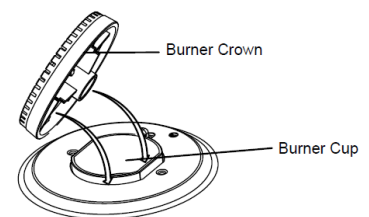

Figure 2
Removing The Burners (Refer Figure 2)
- To do this, ensure that the 2 ribs on either side of the spark plug hole are positioned into the 2 slots on the burner cup. (See figure 2).
- Open the lever A completely on the left and right hinges (fig. 2)
- Gently close the door (fig. 3) until left and right hinge levers A (fig. 2) are hooked to part B (fig. 2) of the door
- Triple Glazed oven door: Remove the top frame (G) by unscrewing the 2 screws, located on the left and right sides
- Gently pull out the inner pane of glass (fig. 2). Also remove the centre pane of door glass, not shown here.